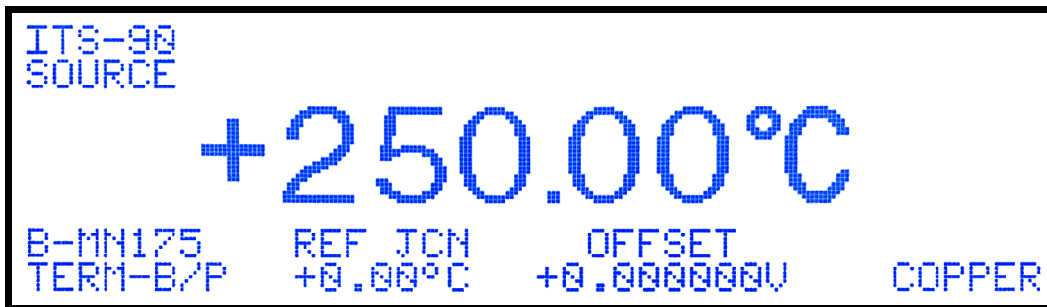

Figure 9-4: Initial Operating Screen for Temperature Tests
6. The operating screen should be as shown in Figure 9-4.